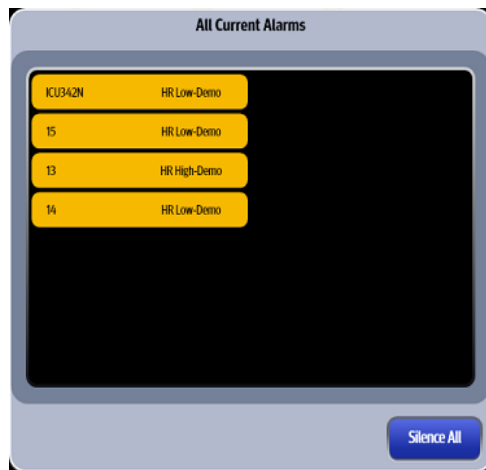

FIGURE 22-6 Example All Current Alarms Dialog
1. Select the **Show All** button. The Alarm Watch Overview dialog (shown in FIGURE 22-6) displays.